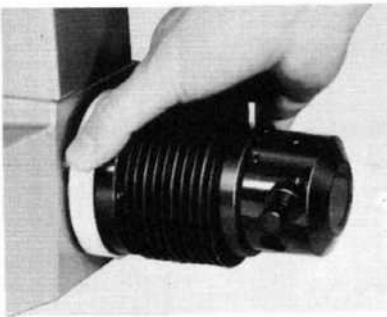

Fig. 2
1. Attachment of Light Source (Fig. 2)